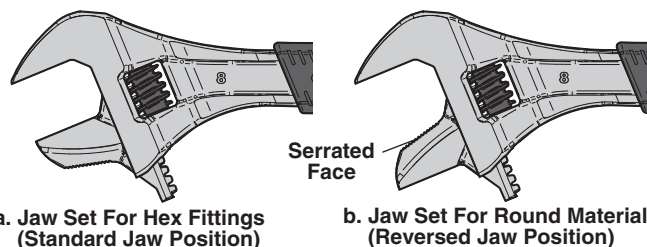

Figure 3 – Reversible Jaw Positions
2. Position the jaw to desired side. Serrated face out for square or hex material. Serrated face in for use on round material. See *Figure 3*.